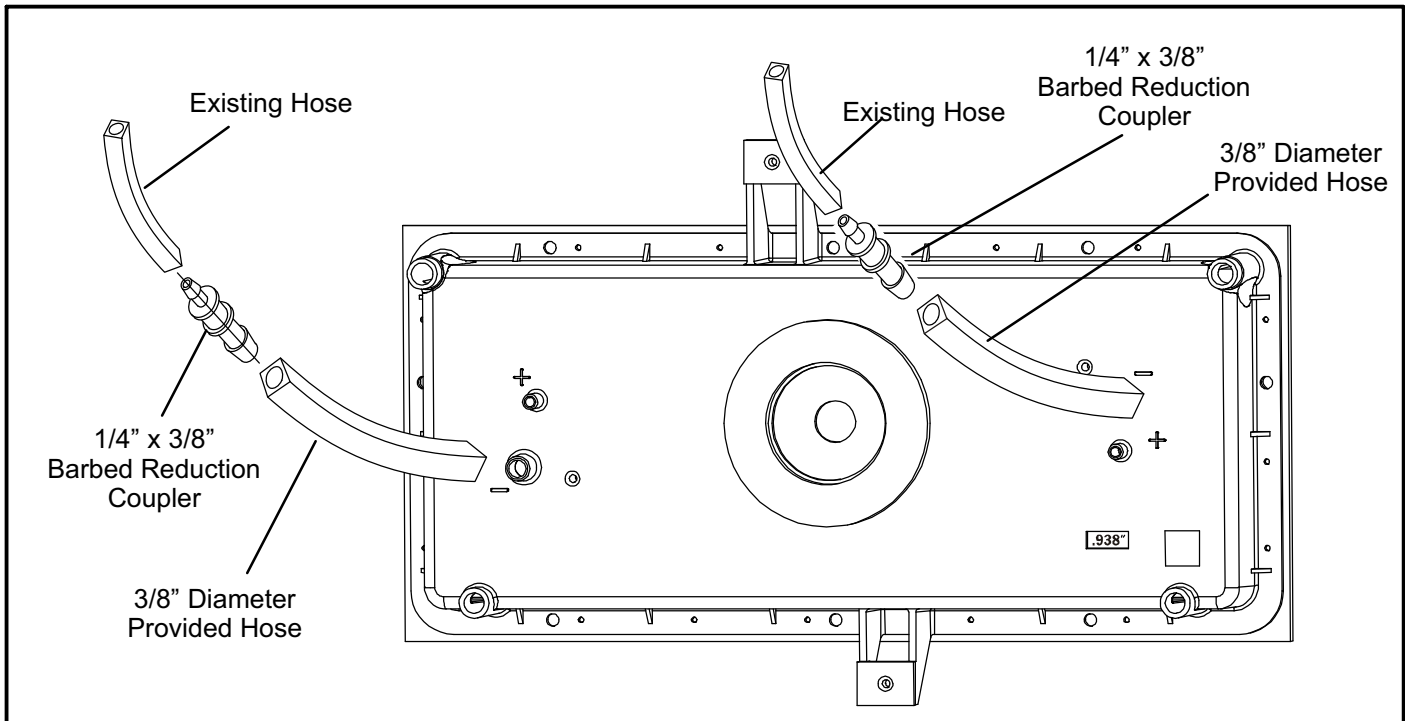

FIGURE 1
- 9 - Remove and discard the (8) screws holding the collector box and remove.
- 11 - .Use the provided rubber caps to plug any unused ports on the replacement collector box. G43 collector boxes have (2) ports while some G71 collector boxes have (3) ports.
- 12 -Use the provided (8) screws and install the replacement collector box. Make note of correct orientation.
- 18 -Insert the provided barbed reduction couplers into each of the (2) provided 3/8" ID hoses then connect to the 3/8" negative (-) ports on the box. Make sure the hoses are fully engaged to the ports. See figure 1.